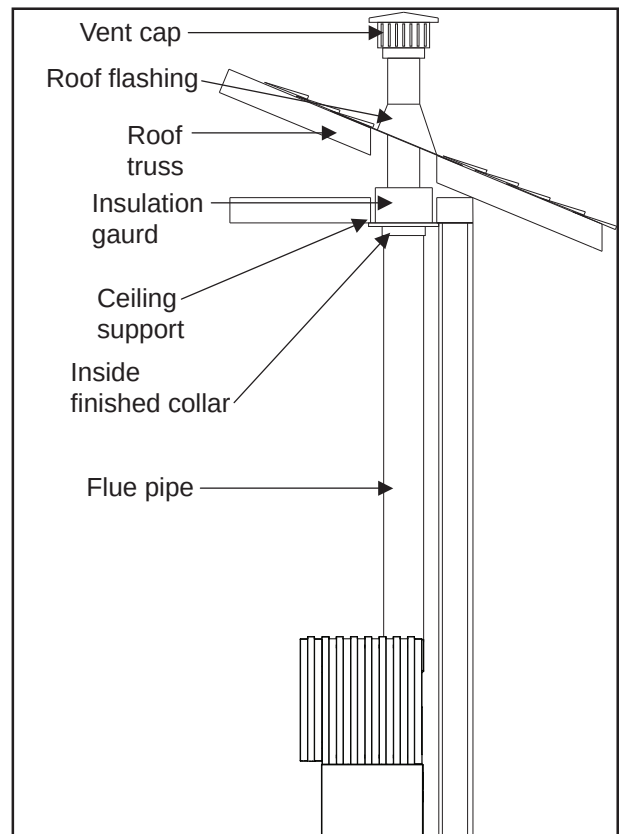

Figure 55: Installation for Top Vented; Vertical Termination.
3. Remove the four mounting screws holding the spill switch bracket and remove the bracket (see Figure 55).